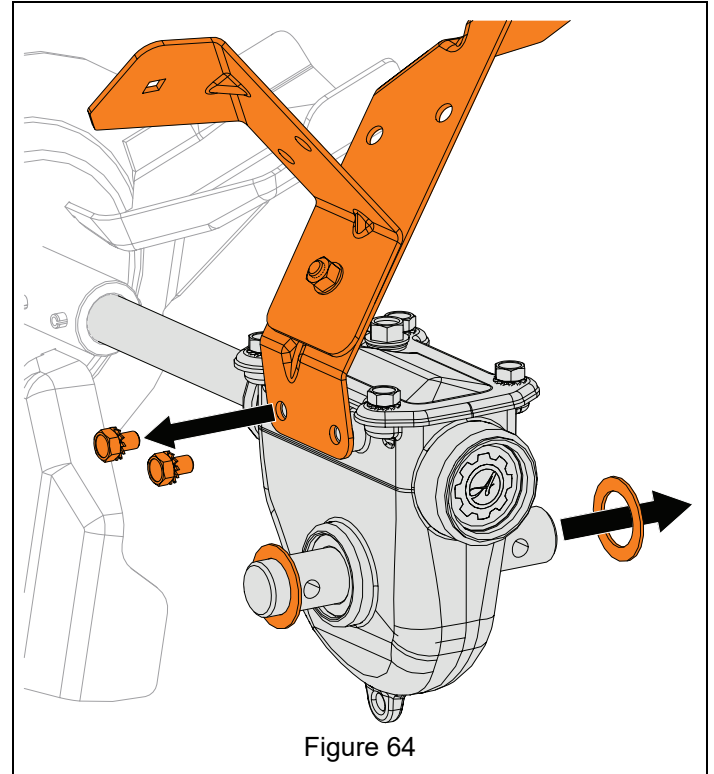

Figure 64
- Remove augers. See *Remove Auger* on page 26. See Figure 64.